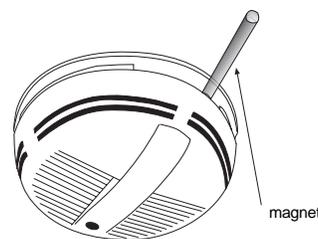

Figure 7. Sensitivity Testing
1. Hold the magnet on the hinge side of the unit for more than one second (see Figure 7). The LED will flash 1 to 9 times.